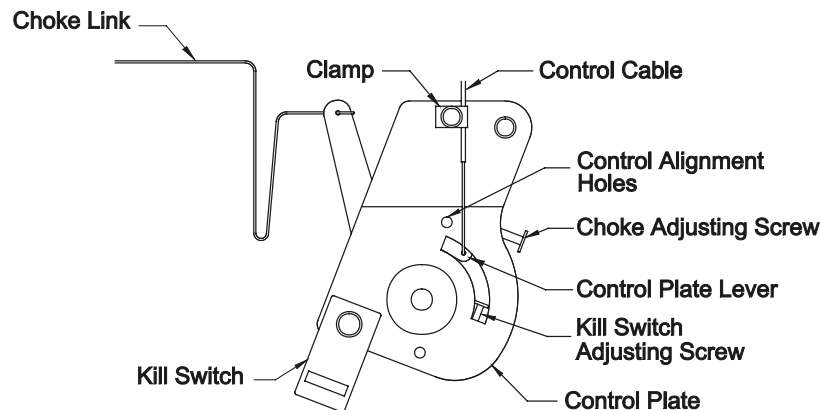

FIGURE 3
- Loosen clamp on engine control plate. (See Figures 3 & 4). Attach inner wire of the throttle cable to the control plate lever and position cable under clamp, **do not** tighten clamp.